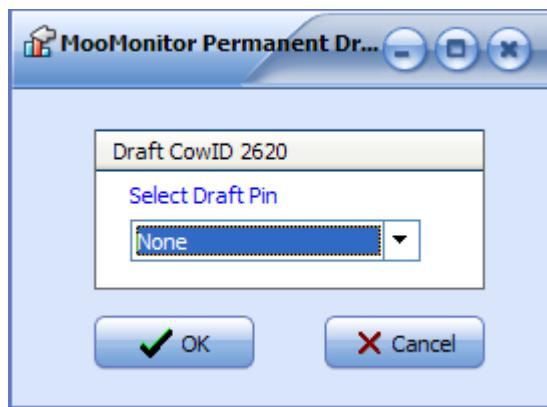

Figure 29 Permanent Draft screen.
- The screen in Figure 29 below will appear.
- e. To cancel a permanent draft, repeat steps a and b and then select 'None' from the 'Select Draft Pin' dropdown menu as shown in Figure 29 on the previous page.